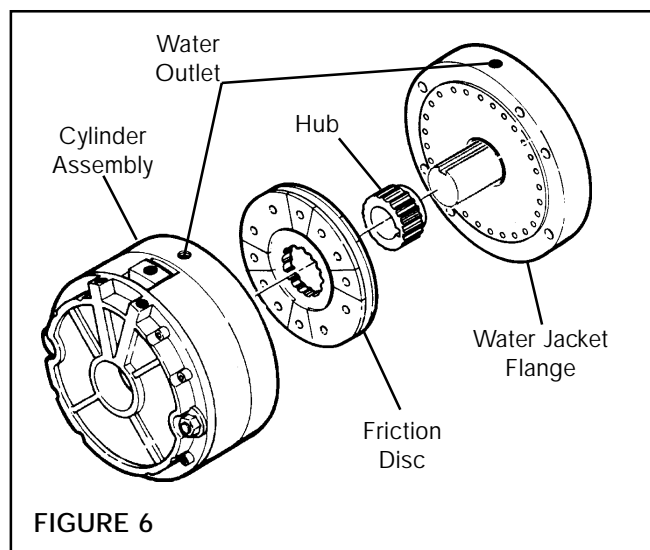

FIGURE 6
2. Slide Hub onto machine shaft until back of Hub is approximately 1.38" [36 mm] from machine mounting surface. (See Fig. 6).
5. Slide Water Jacket Flange over Hub and machine shaft (See Fig. 6).
8. Position Friction Disc on Hub (See Fig. 6).
9. Slide Cylinder Assembly into position, aligning holes in Cylinder Assembly with holes in Water Jacket Assembly and machine mounting surface (See Fig. 6).